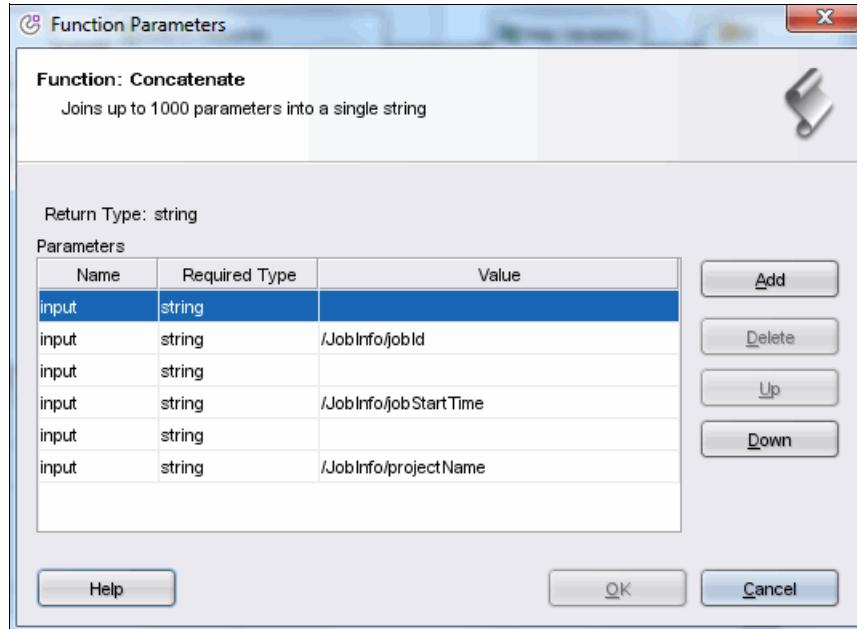

Figure 11-41 Configuring the Concatenate function
- b. Use the Up button to position these fields above each of the three job fields, as shown in Figure 11-41.